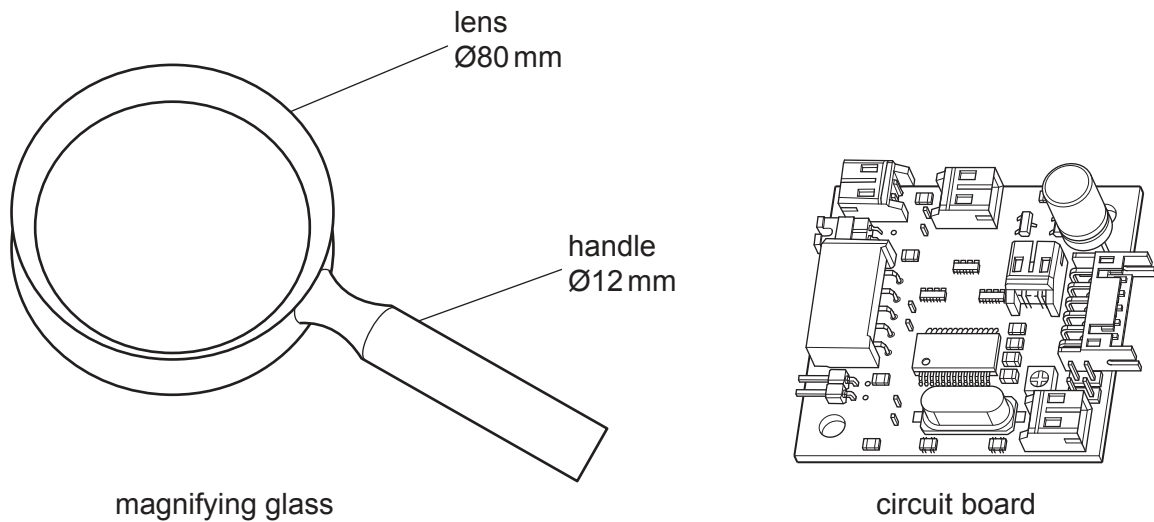

Fig. 9.1
- 9 Fig. 9.1 shows a magnifying glass and a circuit board. It can be difficult to hold and see small electronic components when fault finding.